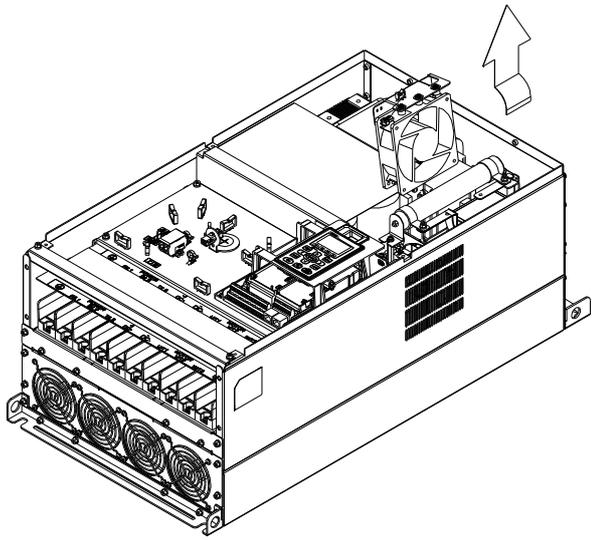

Figure 4
(3) Loosen the screws and remove the fan. (figure 3 and figure 4) Screw torque: 24~26kg-cm (20.8~22.6lb-in).